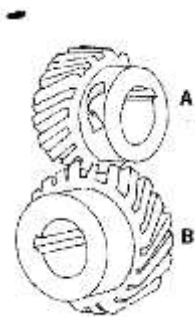

Figure 2
1.2 Copy figure 2 and draw an arrow on your diagram to the direction of rotation of Gear B if Gear A is the driver.